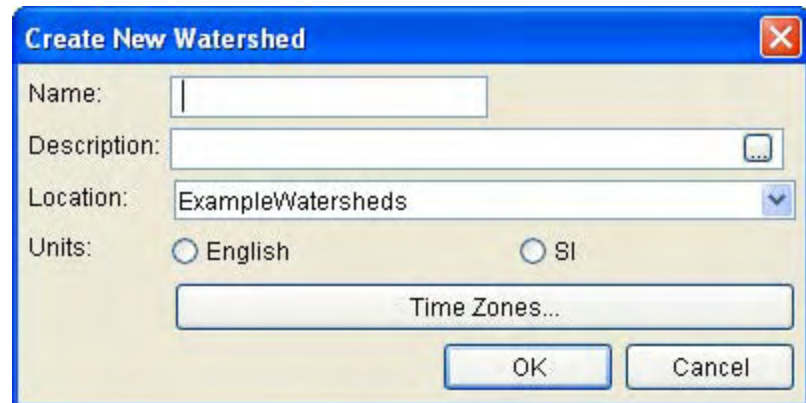

Figure 3.9 Create New Watershed Dialog Box
1. Select **New Watershed** from the **File** menu. The **Create New Watershed** dialog box (Figure 3.9) opens.